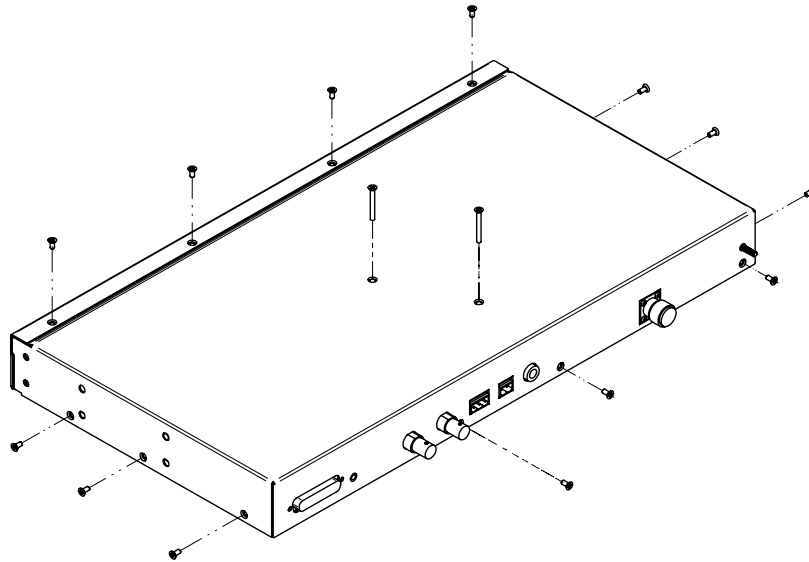

Figure 1. Removing the Cover Screws (TRACER 4305)
1. Remove the screws from the chassis cover using a Phillips-head screwdriver (see Figure 1).